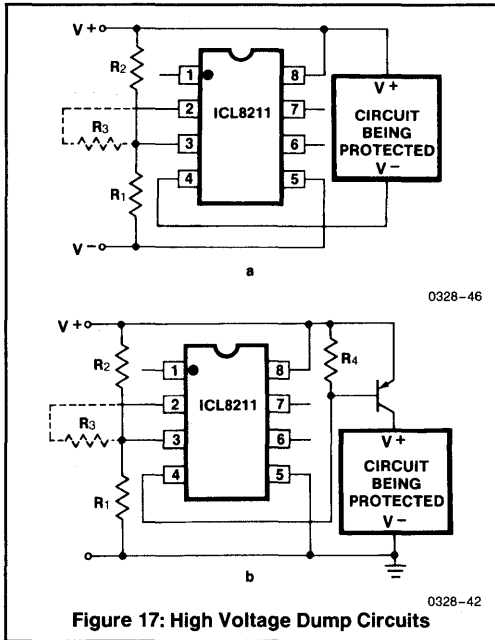

Figure 17: High Voltage Dump Circuits
g) High Supply Voltage Dump Circuit (Figure 17)